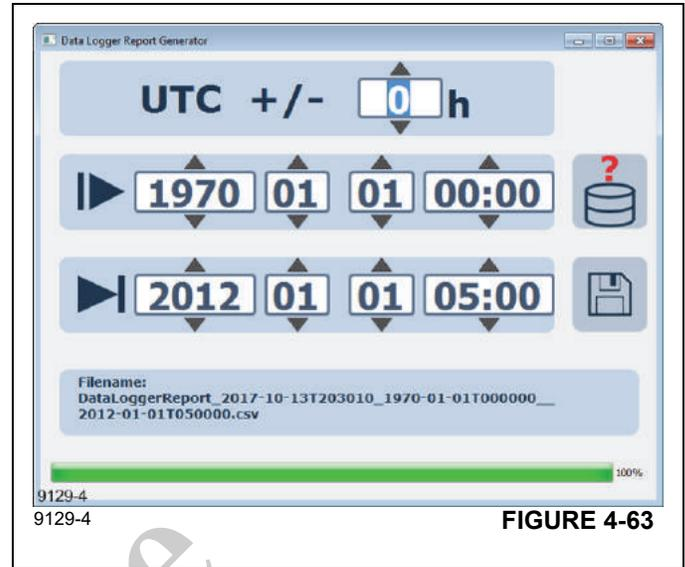

FIGURE 4-63
8. Select the save icon and choose the directory to save the report to (Figure 4-63).